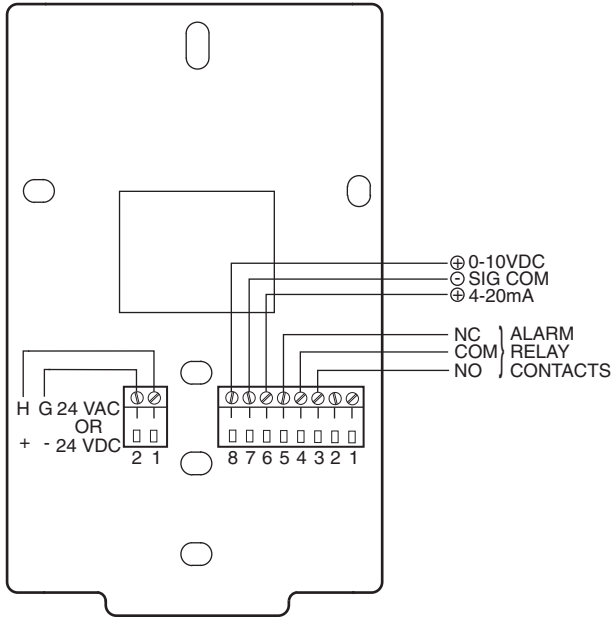

Fig. 16 — CO₂ Sensor, Wiring Connections
3. Using field-supplied wire and terminals, connect J8-8 from the CO₂ sensor to the (+) terminal on the front of adapter part no. Q769C1007. Connect J8-7 to the (-) terminal. See Fig. 16 and 17.